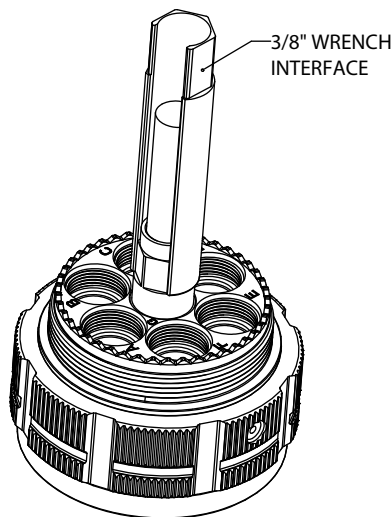

FIGURE 2
- B. Using the retention ferrule tool (Glenair P/N 607-011), and a 3/8": wrench, tighten the retention ferrule to a torque of 5 in-lb. (Figure 2)